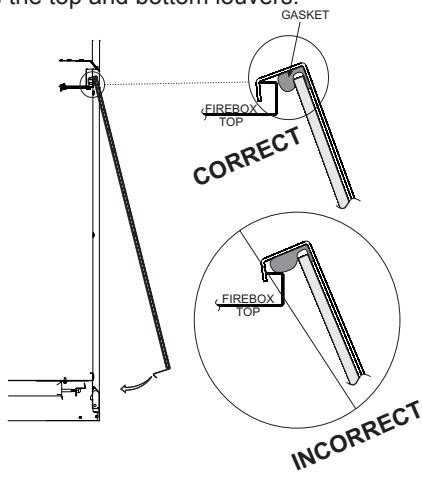

Figure 99
1. When installing the Glass Door assembly, make sure that the door top flange is hooked over the firebox top flange as illustrated in the "Correct" view in Figure 99.
Important: Do not allow the gasket across the top of the door to roll up on top of the firebox flange as shown in "Incorrect" view in Figure 99.